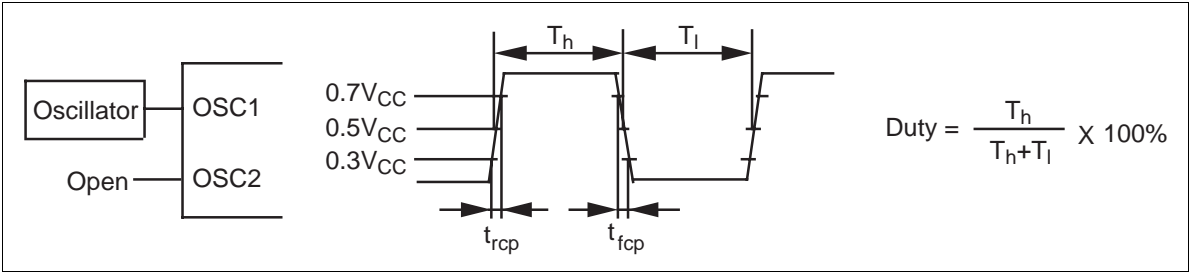

Figure 53 External Clock Supply
- 13. Applies to the external clock input (Figure 53).